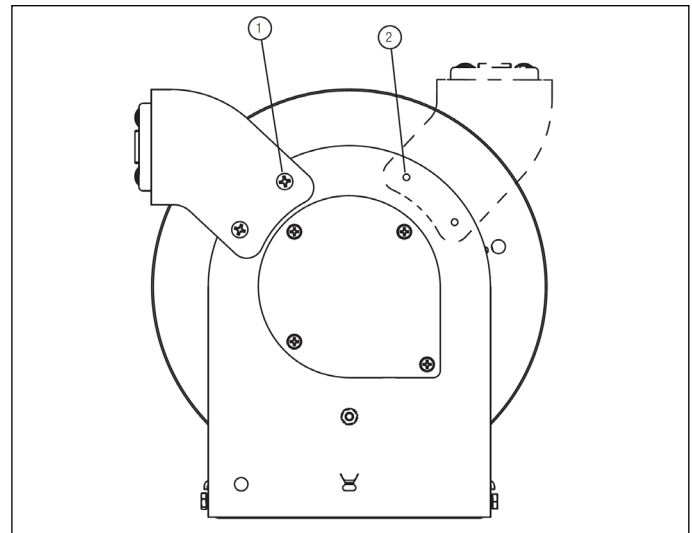

Figure 9 Guide Arm Positions
2. Unscrew the two phillips screws. See Figure 9.